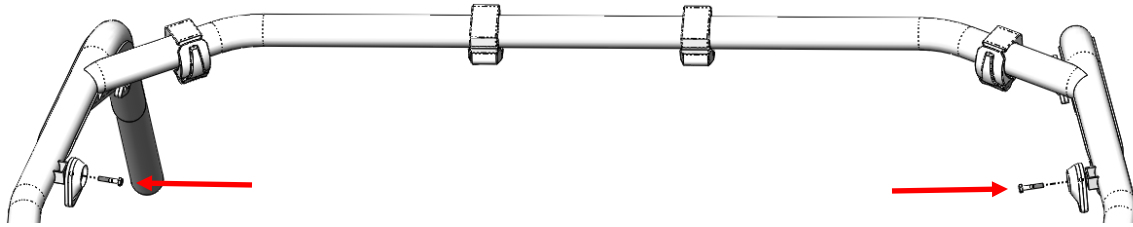

Figure 2: Remove the factory safety net bolts.
1. Remove the factory bolts from the safety nets as indicated in Figure 2. The bolts will not be reused, but the remaining hardware will be used.